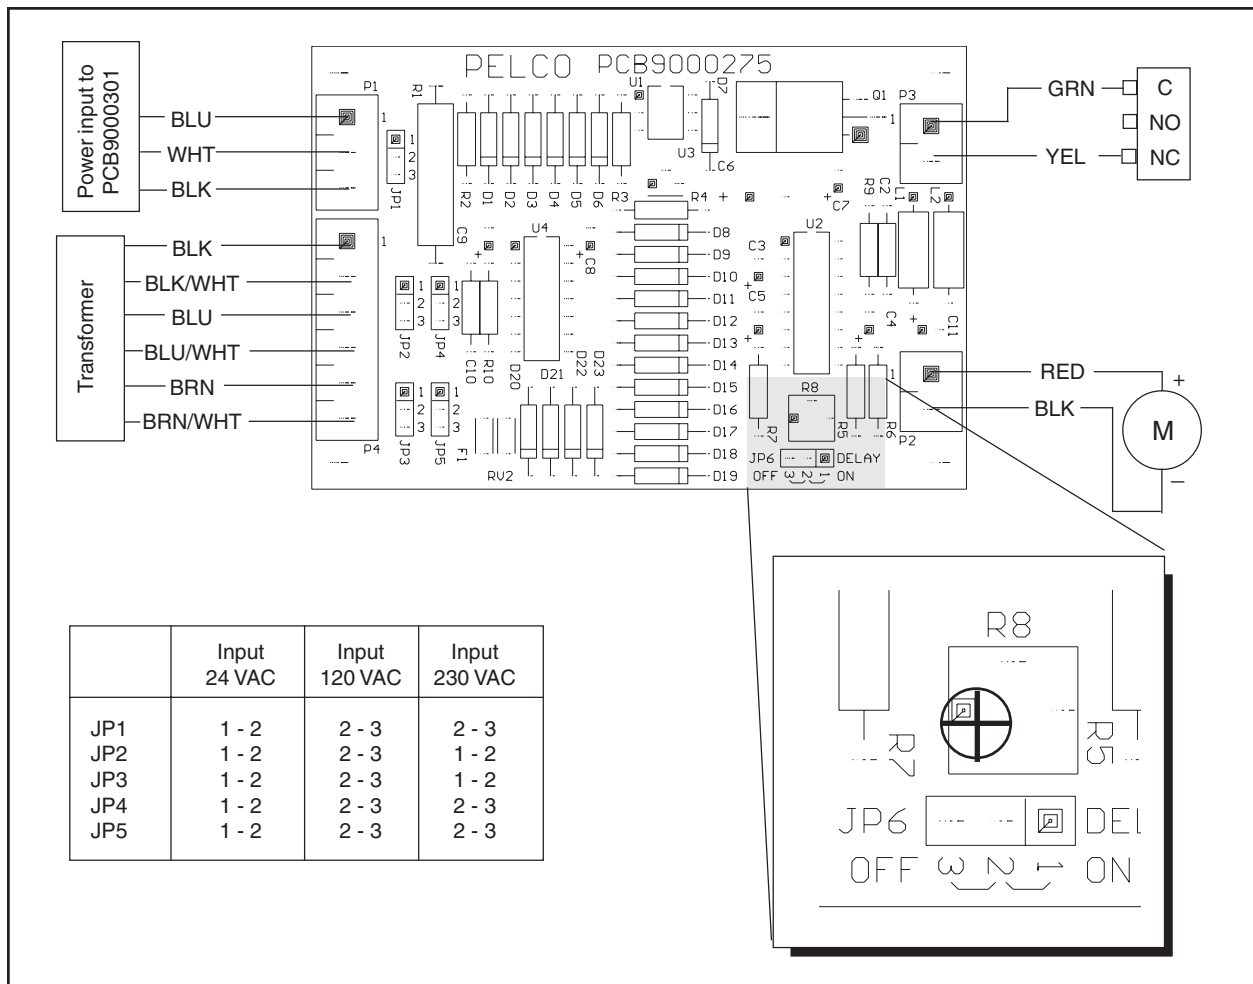

Figure 2. Wiper Circuit Board Component Locations
2. Refer to Figure 2 and set either of the following two options: